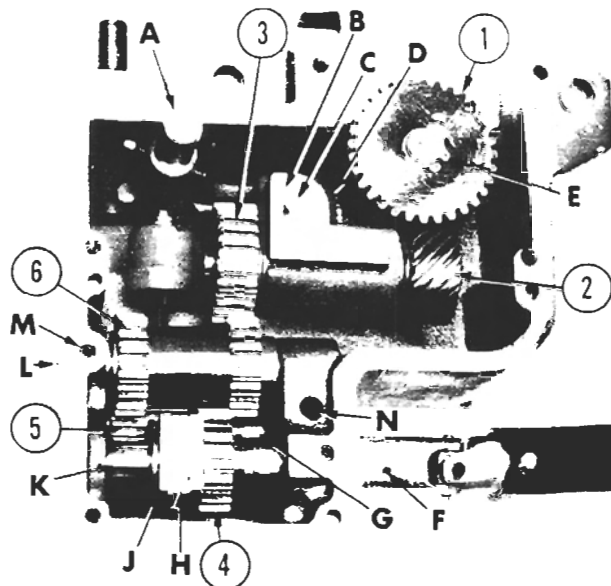

Figure 38
- NO. 1 GEAR, remove retainer ring (E, fig. 38) next to gear and pull off. If gear is tight on shaft, remove shaft, and drive shaft thru gear.
- NO. 2 GEAR or NO. 3 GEAR, lift out feed-engage shaft assembly (A) and lift tumbler assembly (B) off hinge pin (C) -- CAUTION: Do not lose spring (D). Remove retainer and pull out either gear. Do not drive shaft back -- there are Woodruff keys under gears.
- NO. 4 GEAR, remove roll pin (F) from universal and pull universal off selector gear shaft (K). Drive shaft (K) to left to remove.
- NO. 5 GEAR, remove No. 4 GEAR. Then loosen set screw (N) in gear case and set screw in collar (G). Drive shaft to left to remove.
- NO. 6 GEAR, remove screw (L) from end of compound shaft and loosen set screw (M). Screw $\frac{1}{4}$ " - 20 cap screw in place of set screw (L) and pull out compound shaft.